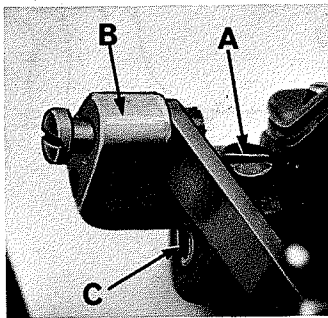

Fig. 12
The thread tension release is set correctly when it begins to function at the point when the upper feed roller begins to raise. When adjustment is necessary, loosen screw (A, Fig. 12) in lift lever (B). Facing the tension release shaft (C) from the RIGHT end of the machine, insert screwdriver in slot in shaft and rotate counterclockwise to retard, or clockwise to advance the release